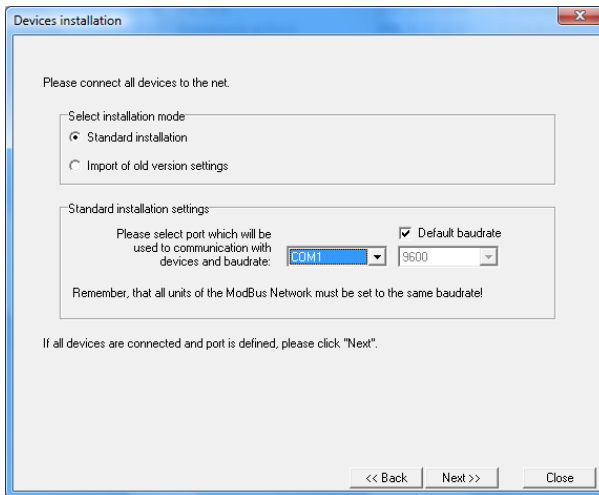

Figure 2.2. Selection of serial port
- Next screen (Figure 2.2) enables the selection of the number for the RS 232 serial port for the converter. The number of the selected port must comply with number of the port to which the converter is connected. If devices have work with different baud rate than default value (9600 bit/s) then user can specify desired value using this parameter.